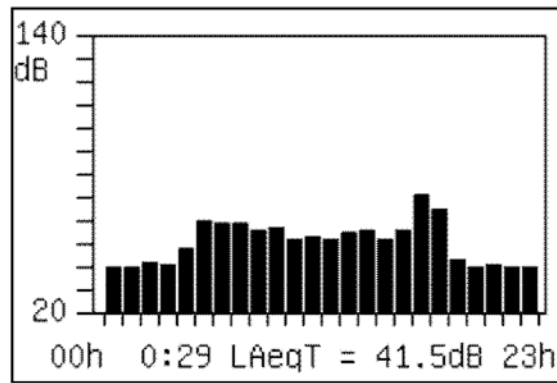

Fig. 45: Display of distribution graphic of the "24H" analysis values
2. Press the key to display in detail the value of each interval considered (e.g.: 8 intervals in Fig. 45). Press the or keys to go to the next pages and the or keys to display the values of parameters **Ld**, **Ln** and **Ldn**